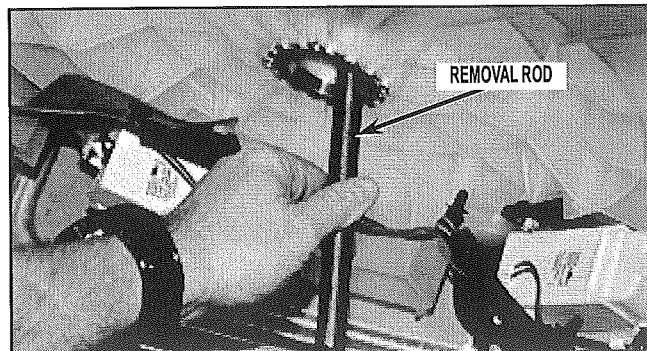

FIGURE 10
14. Tip washer back on hoses and drive Top Bearing out using Removal Rod and hammer. Discard all parts. See *Figure 10*.